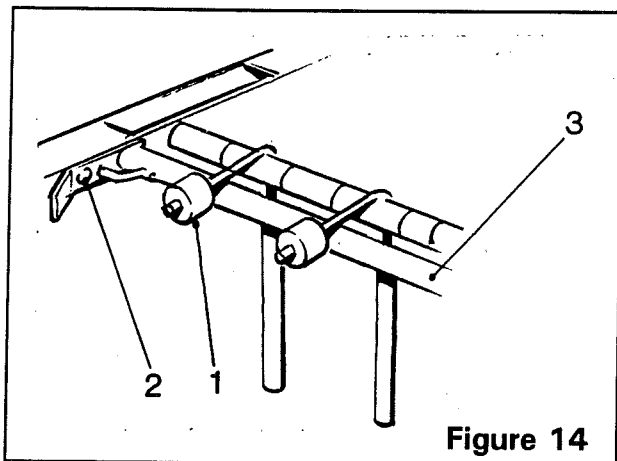

Figure 14
Weighted haulm guides (item 1, figure 14) are fitted to guide haulm into the haulm roller. They can be adjusted by slackening the retaining bolt (item 2, figure 14) and pivoting the adjusting bar (item 3, figure 14) to the required position.